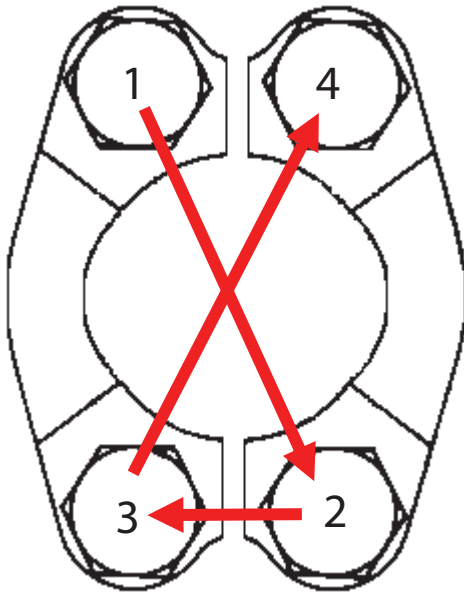

Figure 32
7. Use a diagonal tightening sequence in small increments as shown in Figure 32.